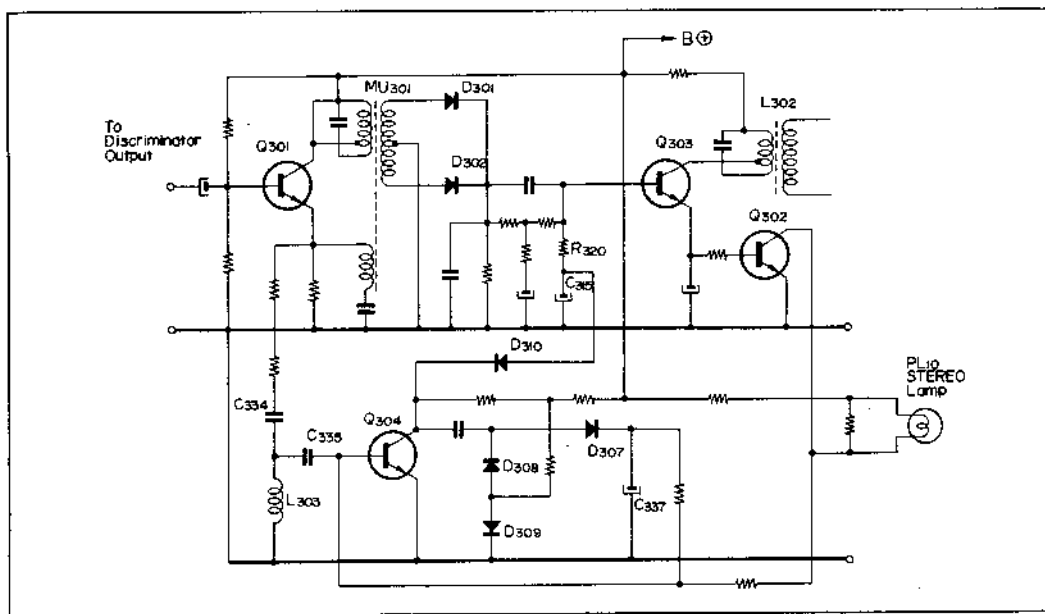

Fig. 1-1. Stereo-mono automatic switching circuit
1. Stereo-Mono Automatic Switching Circuit (See Fig. 1-1)